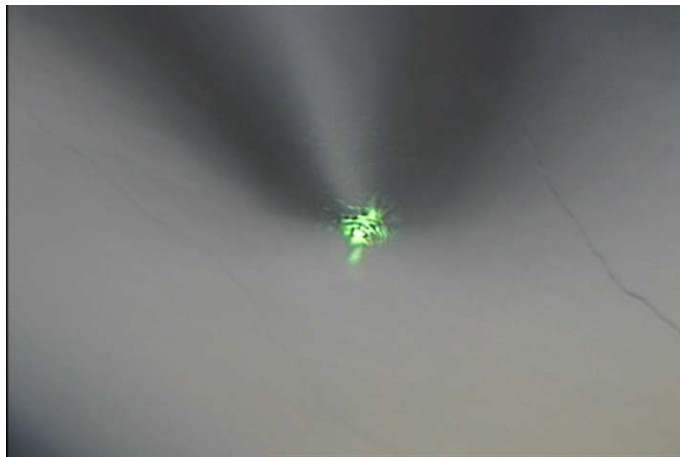

Fig. 12-12. Both sample surface and laser beam in the objective focus
5. Switch on the illuminator. This will produce the screen image that shows the sample surface with the laser spot focused on the tip apex (see Fig. 12-12).